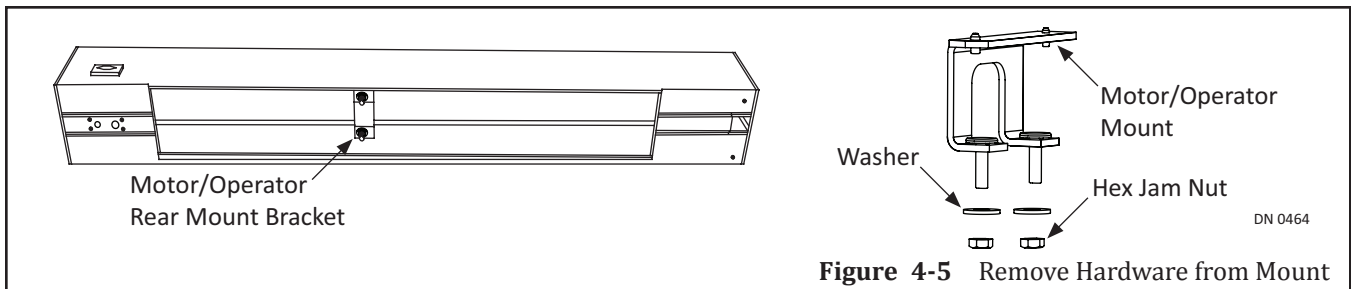

Figure 4-5 Remove Hardware from Mount
2. Go to (inside) top of Header. Please see Figure 4-5.
4. With a 9/16 inch Deep Well Socket and Ratchet, remove (2) 3/8-16 inch Hex Jam Nuts and (2) 7/16 x 1 inch Washers from (2) Studs extending downward. Set aside.
5. Hold the Front end of Motor/Operator at an upward angle to slide Front Mount onto (2) Pivot Base Tabs located inside of Header.